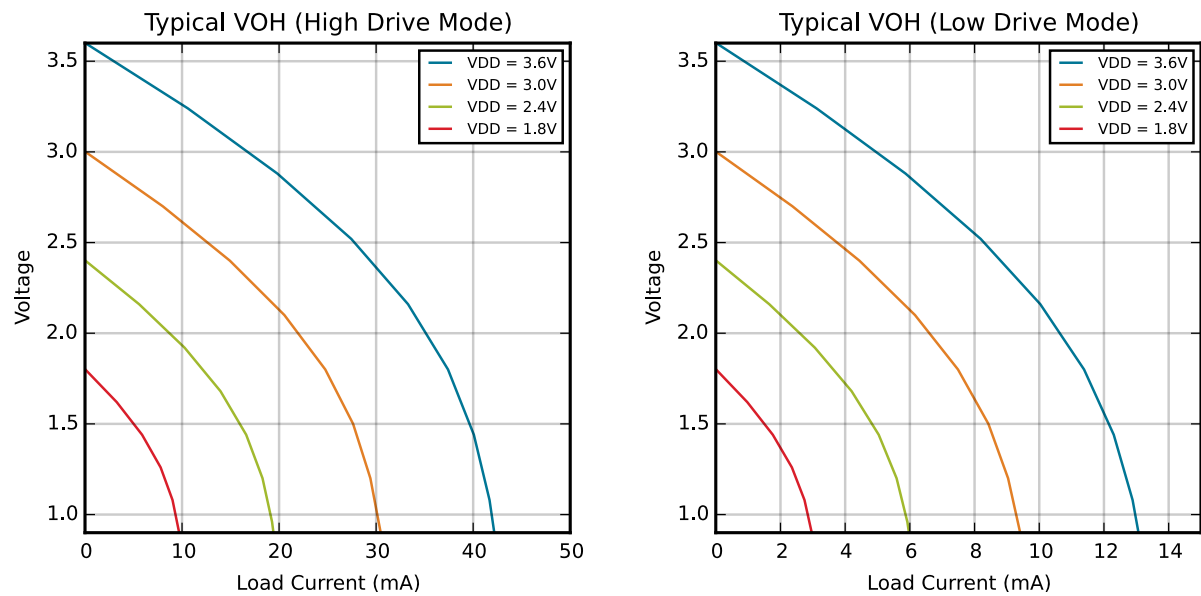

Figure 4.3. Typical V_{OH} Curves
1. See Figure 4.3 Typical V_{OH} Curves on page 29 and Figure 4.4 Typical V_{OL} Curves on page 30 for more information.